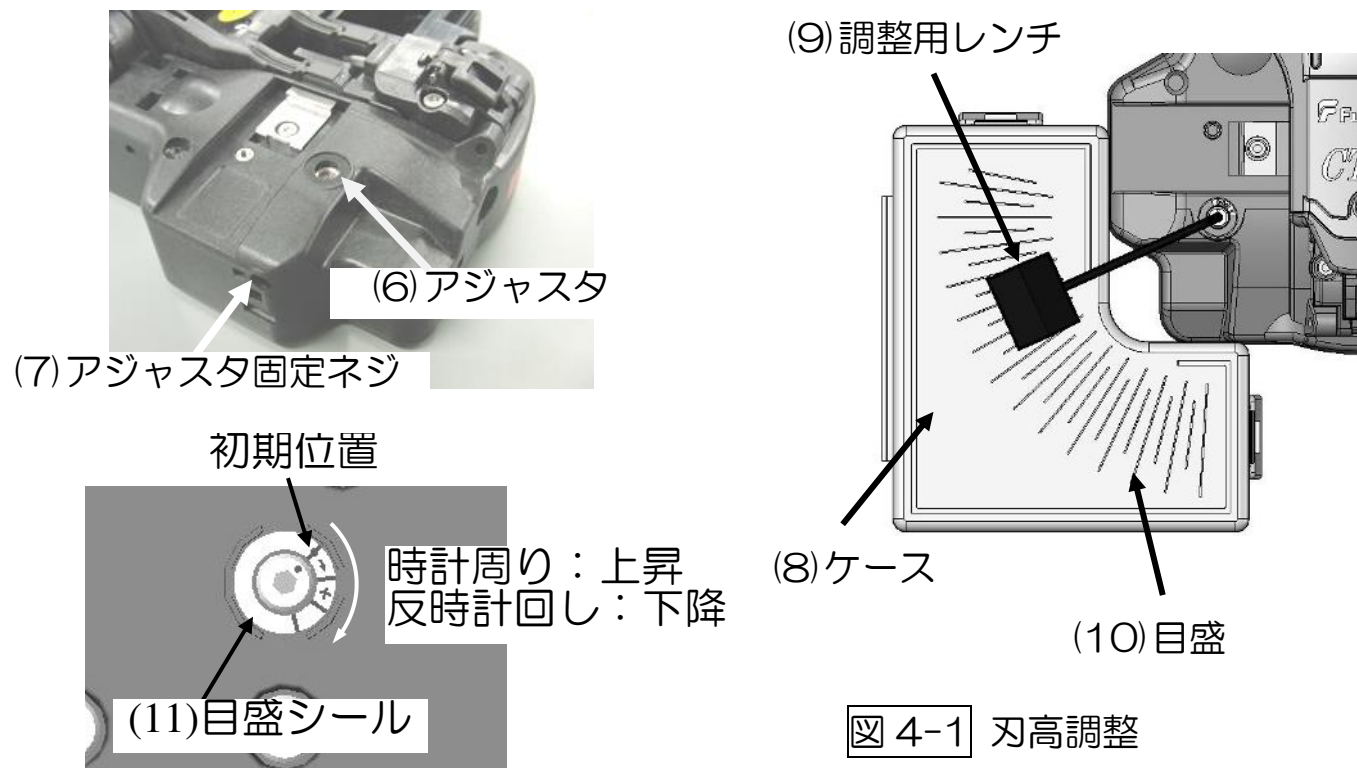

図 4-1 刃高調整
3. Set the Case (8) at the side of the cleaver as shown Fig.4-1. Then set the Indicator (9) at the Adjuster (6). See the Fig.4-1.
5. If the fiber is cleaved, go to Step6. If not cleaved, raise the blade height by rotating the Adjuster (6). The lid on the Case (8) has a scale. Use this scale and the Indicator (9).